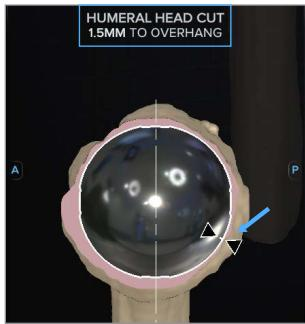

Figure 45. Humeral head cut panel
- Verify placement of the Eclipse head on the collapsible humeral head cut panel. The location and distance from the edge of the implant to the cortical rim is indicated as pictured in Figure 45.